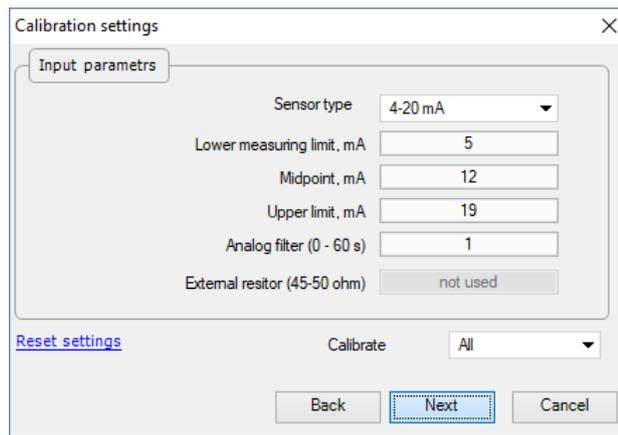

Fig. 7.2 Parameter configuration
8. Select the type of input signal and other calibration parameters (Fig. 7.2).